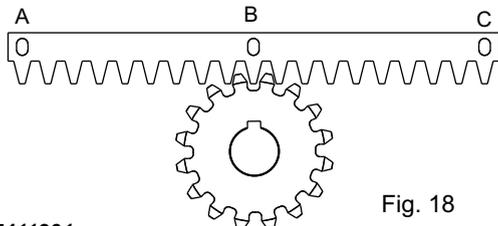
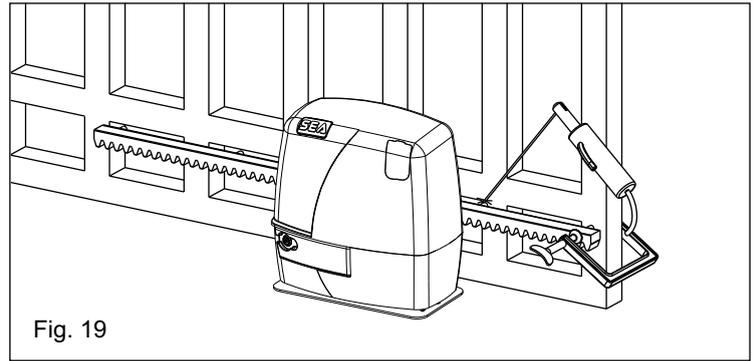

Fig. 18
Fig. 19
- 7.3. Lean the gear rack element on the toothed pinion of the motor in parallel to the ground slideway of the gate, as shown in Fig. 18 and electrically weld the central pawl B to the gate structure (Fig. 19). Manually move the gate until pawl C is placed corresponding to the pinion and fix it through electric welding. Repeat the same procedure for pawl A after having placed it corresponding to the pinion;